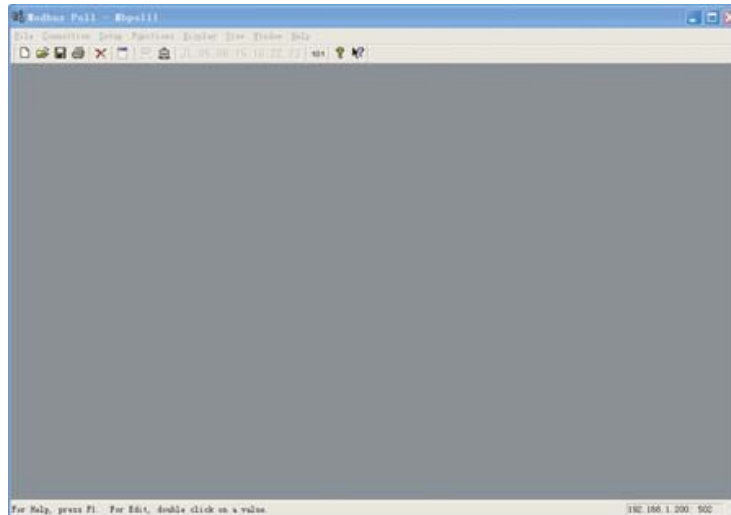

Fig.3.7
1)Choose "Connection"->"Connection" in figure 3.7,and then chose TCP/IP in the pop-up window:
Take writing holding register for example: Choose button 16 in Fig.3.7, as shown below: